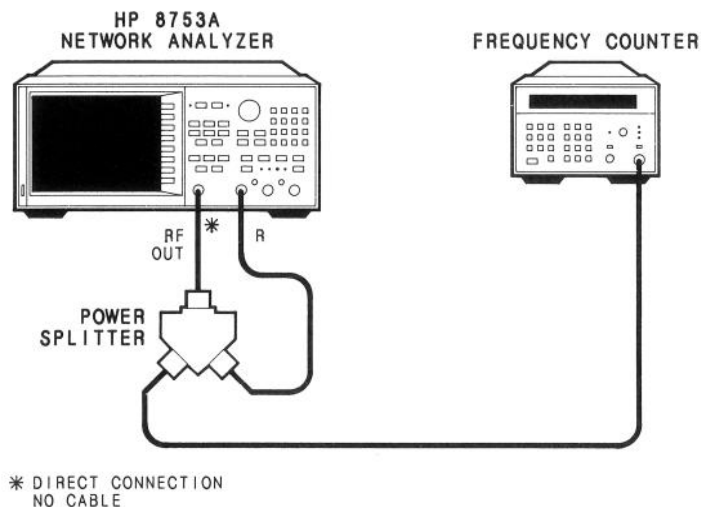

Figure 8. Frequency Accuracy Adjustment Setup.
1. Connect the equipment as shown in Figure 8.